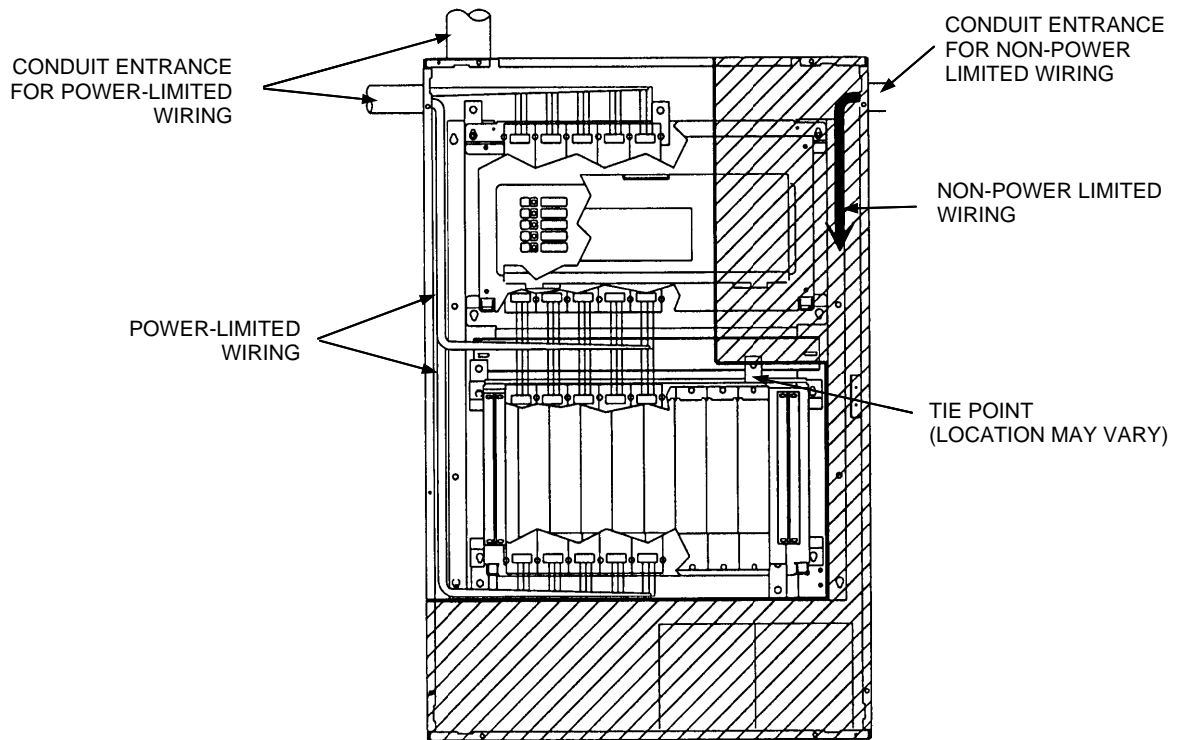

Figure 11. Power-Limited Wiring
- Non-power limited field wiring (AC power, batteries, City connection) must be installed and routed in the shaded areas shown in Figure 11.
- Power-limited field wiring must be installed and routed in the non-shaded areas shown in Figure 11, with the exception of City wiring.
- Excess slack should be kept to a minimum inside the back box enclosure. The wiring should be neatly dressed and bundled together using the wire ties provided with the equipment. Anchor power-limited wiring to tie points, as shown in Figure 11.